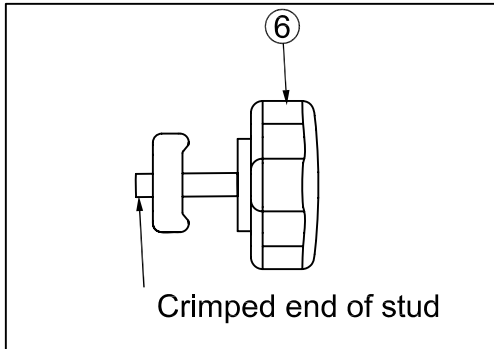

Fig. 4
8. Rotate the Anchor Plate (#6) on the Knob as shown in Fig. 4. back to the crimped threads. With the bed divider at the end of the utili-track, slide the Knob Assembly into position behind the Left Bracket (#3) with the stud of the Knob in the open slot. Slide the entire assembly slightly into the utili-track so that the Anchor Plate is properly installed (Fig. #5 & 6), then tighten the Knob .